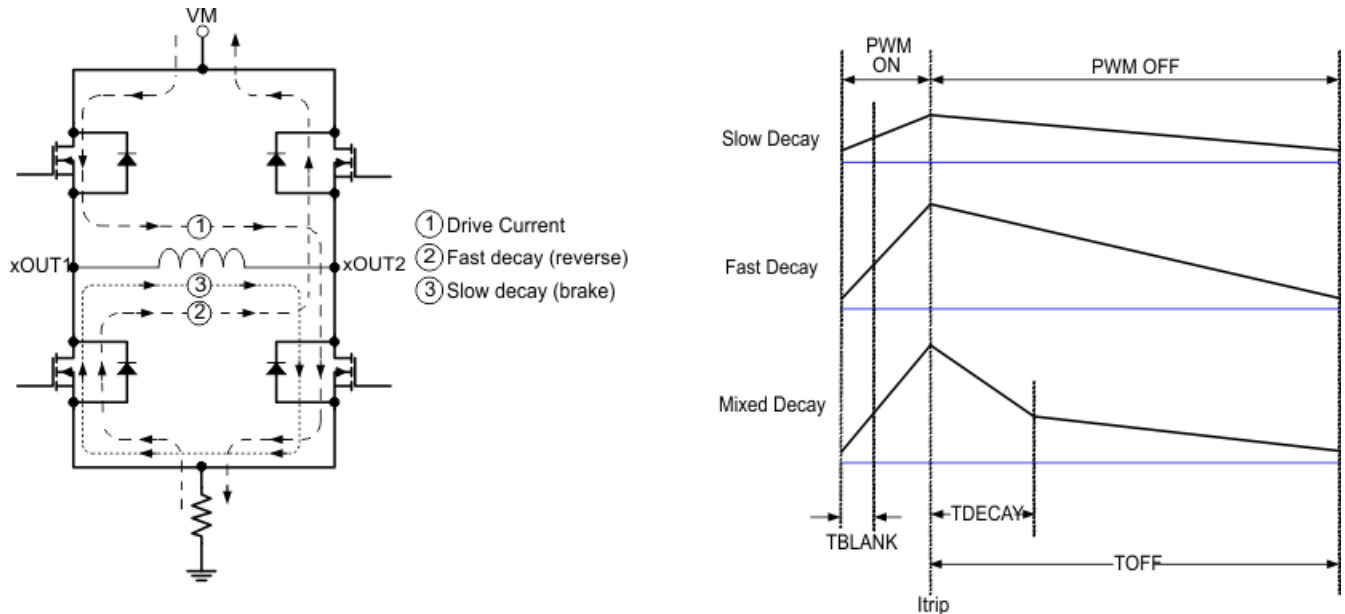

图 8. Decay Modes
During PWM current chopping, the H-bridge is enabled to drive through the motor winding until the PWM current chopping threshold is reached. This is shown in 图 8, Item 1.
Once the chopping current threshold is reached, the H-bridge can operate in two different states, fast decay or slow decay. In fast decay mode, once the PWM chopping current level has been reached, the H-bridge reverses state to allow winding current to flow in a reverse direction. The opposite FETs are turned on; as the winding current approaches zero, the bridge is disabled to prevent any reverse current flow. Fast decay mode is shown in 图 8, item 2. In slow decay mode, winding current is re-circulated by enabling both of the low-side FETs in the bridge. This is shown in 图 8, Item 3.